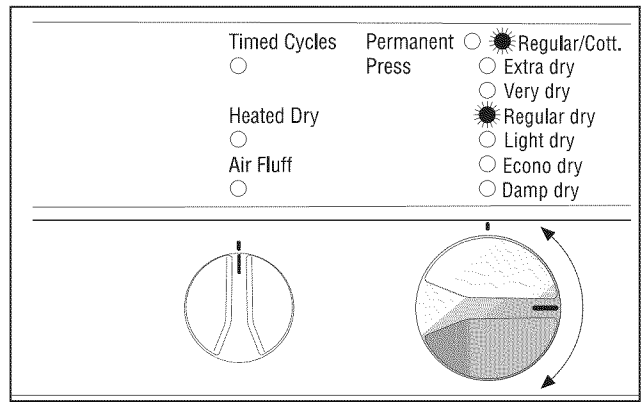

Figure 3.
- a. To use **Electronic Auto Dry Cycles** (dryer runs until the drying level selected has been reached) activate by turning the Cycle Selector knob (see Figure 3) to: